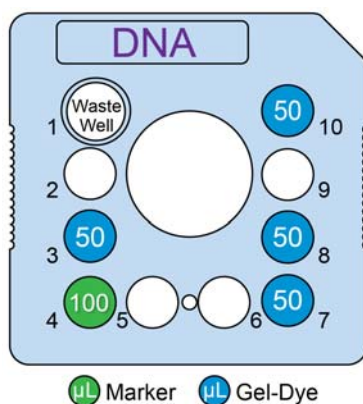
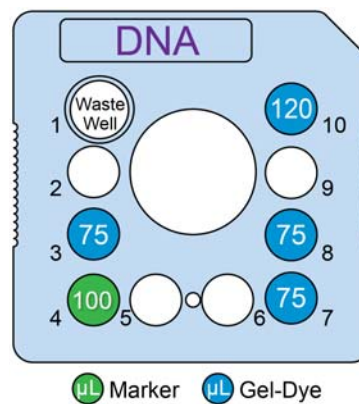

Figure 4. Reagent placement for Low-throughput (up to 48 samples).
Figure 5. Reagent placement for High-throughput (up to 384 samples).
- 5 Using a reverse pipetting technique, add Gel-Dye solution to chip wells 3, 7, 8 and 10 as shown in Figure 4 (Low-throughput) or Figure 5 (High-throughput).
- 6 Add DNA HiSens Marker (green cap ●) to chip well 4 as shown in Figure 4 (Low-throughput) or Figure 5 (High-throughput). Please note that the marker well may need to be replenished if the chip is in idle mode on the instrument for an extended period of time.